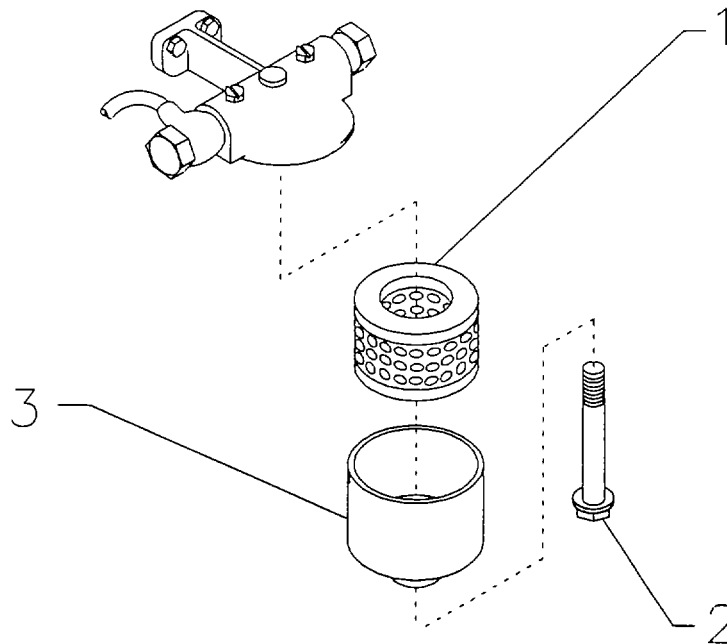

Figure 4-14. Fuel Filter.
a. Removal. Refer to figure 4-14.
1) Remove the center screw (2) of the filter assembly. Discard the old element (1), in accordance with local SOP.
b. Installation. Refer to figure 4-14.
1) Install the new fuel filter (1), housing (3) and center bolt (2).